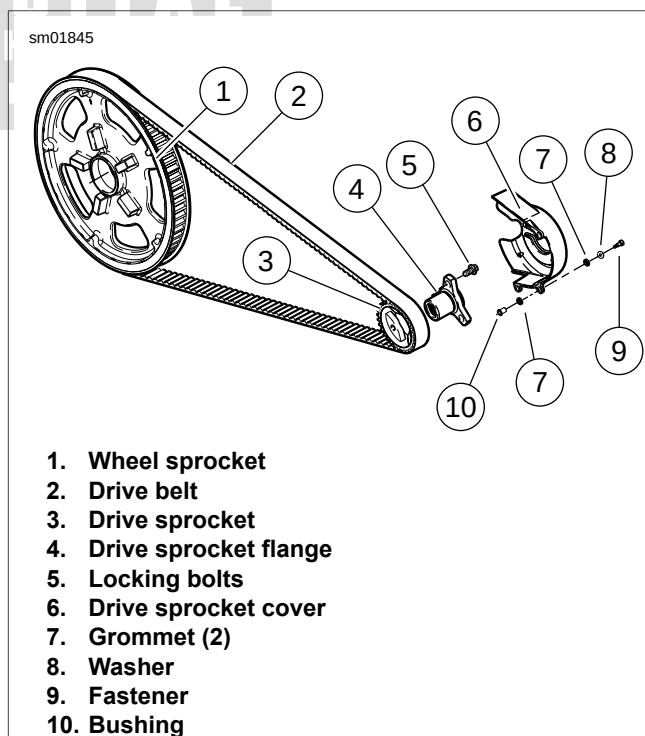

Figure 6-155. Sprocket and Belt Components (typical)
2. See Figure 6-155. Remove drive sprocket cover (6) fasteners (9) and washers (8). Cover (6) retains grommets (7) and bushings (10).
3. Loosen locking bolts (5) holding drive sprocket (3) to drive sprocket flange (4).
10. See Figure 6-155. Slip drive belt (2) off wheel sprocket (1) and drive sprocket (3).
17. See Figure 6-155. Fit replacement belt (2) around drive sprocket (3) and over wheel sprocket (1).